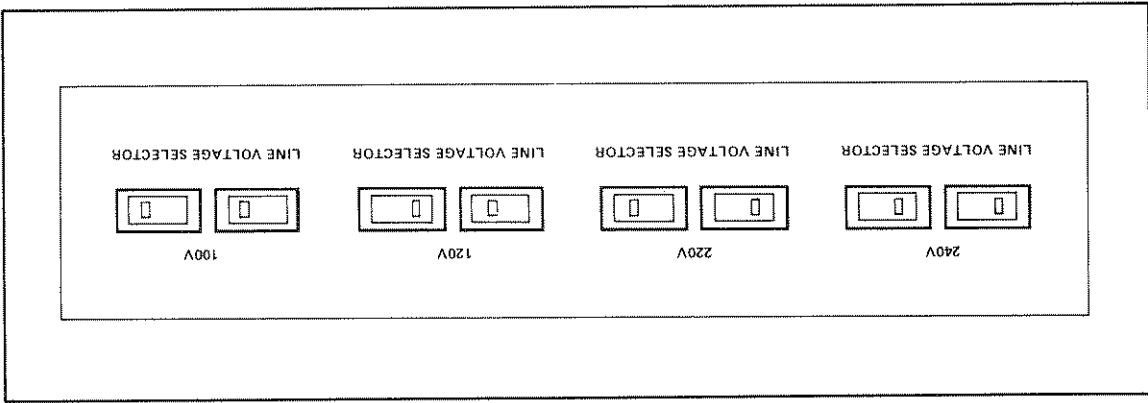

Figure 2-1. Line Voltage Selector Settings
- a. Using a small screwdriver, a pencil, or other suitable tool, align the notches of the LINE VOLTAGE SELECTOR switches with the markings on the rear panel that correspond to the desired operating voltage (see Figure 2-1).